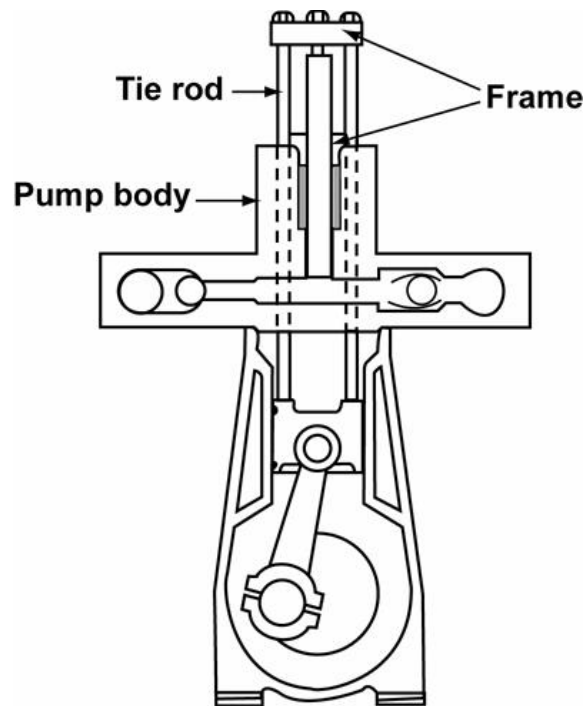

Figure 8.3 – Vertical single-acting plunger power pump
2. Vertical single-acting plunger power pump (Figure 8.3)